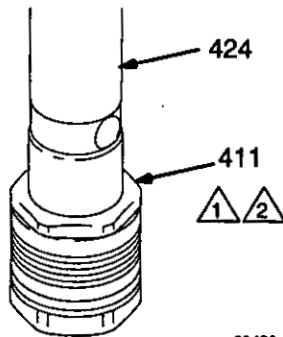

Fig. 31 03490
6. Use a wrench to **CAREFULLY** tighten the nut (411) against the piston rod to 19 ft-lbs (25 N.m). See Fig. 31.